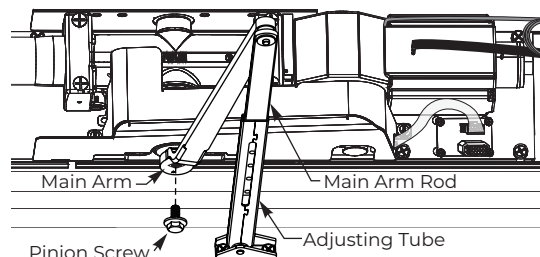

Fig. 17 6021/6031 Arms Shown
1. Place square of main arm onto closer pinion. (Fig. 17)
2. Attach main arm to pinion with pinion screw and tighten with 7/16" wrench. (Fig. 17)